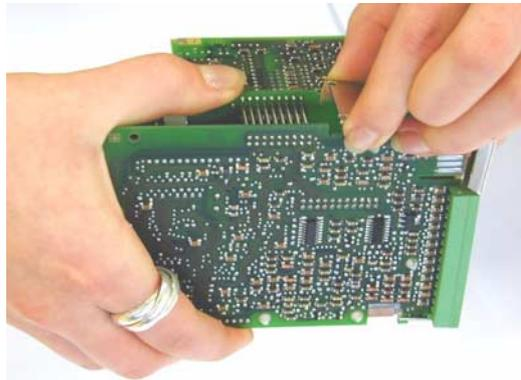

Fig.6-3 Unfix clamp
3. To ease the assembly of the module pull the clamp of the rear wall out of the fixture at the electronic boards Fig.6-3.